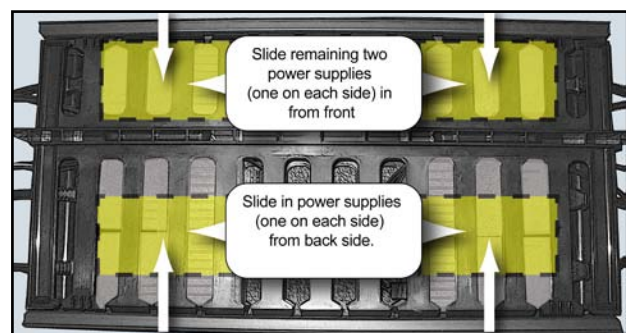

Figure 5: Top down view of 1 RU horizontal cable manager with four power supplies.
- 3.) Slide the two remaining power supplies into the cable manager from the front, with one ON the right and other on the left (figure 5).
- 1.) Place power supplies flat down at in a herring bone pattern on shelf and and line them up into two rows (as shown in figure 5).